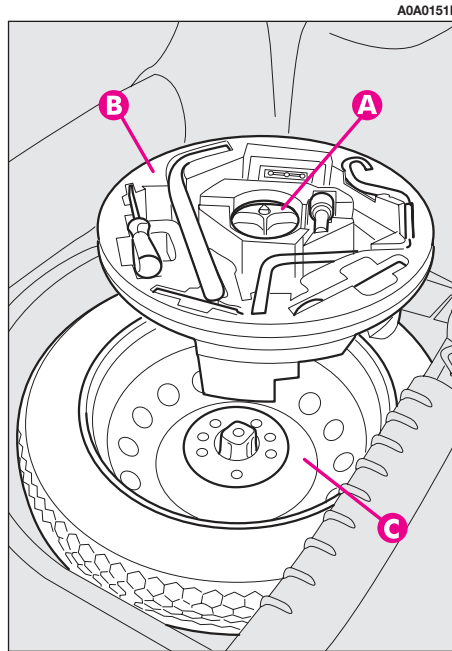

fig. 3
- Loosen the clamping device **(A-fig. 3)**.
– stow the container complete with tools on the spare wheel and secure everything with the clamping device (**A-fig. 3**)